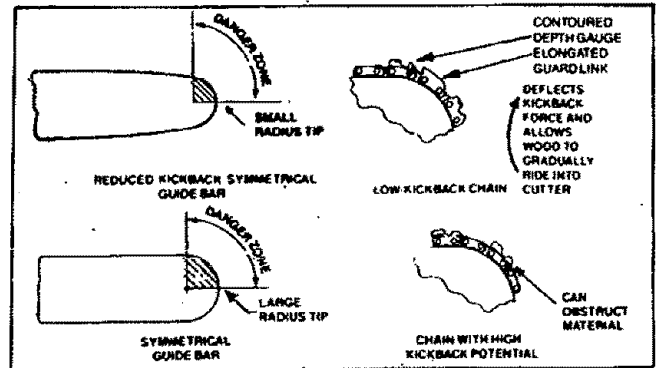

Figure 5
- **Reduced-Kickback Guide Bar**, designed with a small radius tip which reduces the size of the kickback danger zone on the bar tip. Figure 5. A Reduced Kickback Guide Bar is one which has been demonstrated to significantly reduce the number and seriousness of kickbacks when tested in accordance with the safety requirements for electric chain saws as set by U.L. 1662.
- **Low-Kickback Chain**, designed with a contoured depth gauge and guard link which deflect the kickback force and allow wood to gradually ride into the cutter. Figure 5. Low-Kickback Saw Chain is chain which has met the kickback performance requirements of ANSI B175.1.